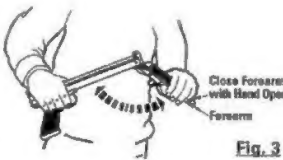

Fig. 3
- Open the forearm all the way until it stops (Fig. 3). Be sure to hold on to the forearm firmly as you open it. It could spring back into the closed position, possibly causing injury. Place your hands in the same positions shown in Fig. 3 in order to avoid being pinched should you lose hold of the forearm. Do not twist the forearm while pumping. Use straight strokes to prevent breakage.